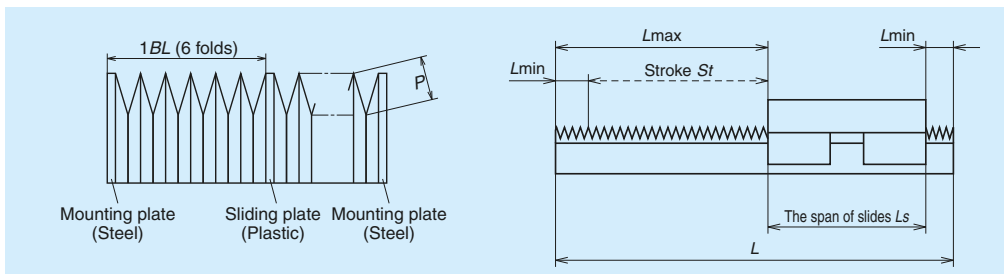

Fig. 7.10
- Bellows fastener is available only for horizontal mounting positions. For other mounting positions, sliding plate is required (see **Fig. 7.10** on page A70.)
- A bellows forms one block (BL) with six folds as shown in Fig. 7.10. The stroke is determined by multiplying by an integer of this BL.